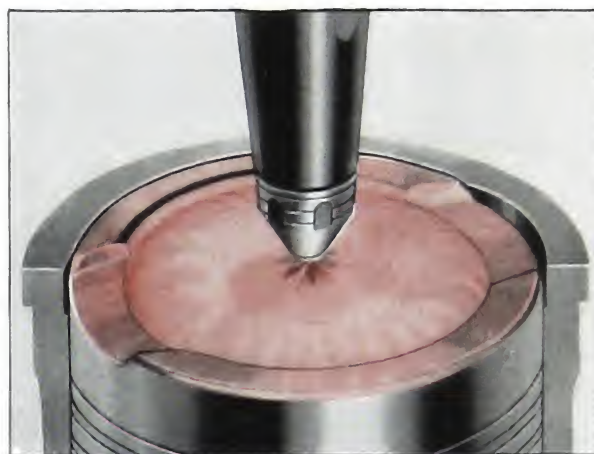

Fig. 6-17. Injector spray diagram
6. Fig. 6-17 shows that in case one injector cup spray hole is plugged with dirt or metal, part of the available air in the cylinder chamber is not in contact with fuel and an over-rich mixture is present in the other part of the cylinder. This causes a falling off in power because of the slow burning of the fuel. The additional burden is then put on the remaining cylinders. To make up for this loss of power in one cylinder, more fuel is fed to the other cylinders than can be burned with the available air. This excess fuel runs down the cylinder walls, causing piston rings to become gummy and to stick. This in turn causes dilution of the lubricating oil in the crankcase.